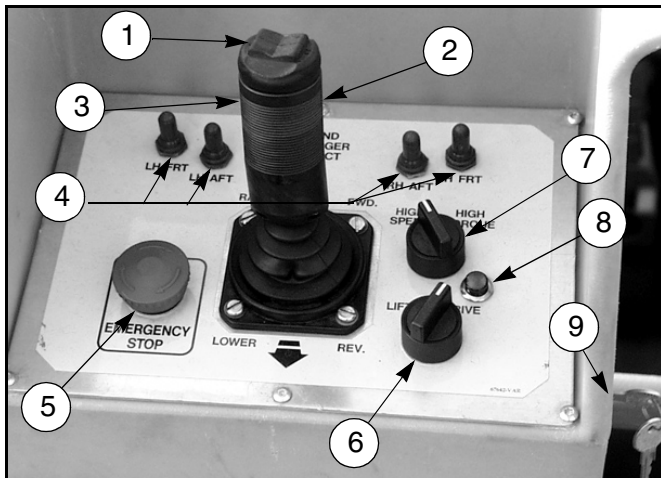

Figure 2: Controller
1. With engine running turn the fuel selector switch (Figure 2) to the center position.